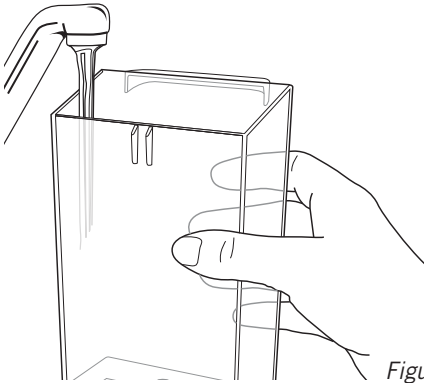

Figure 1
1. Remove water tank from the back of the machine and fill with fresh water. Replace water tank. See figure 1.
1. Open the handle. See figure 1.